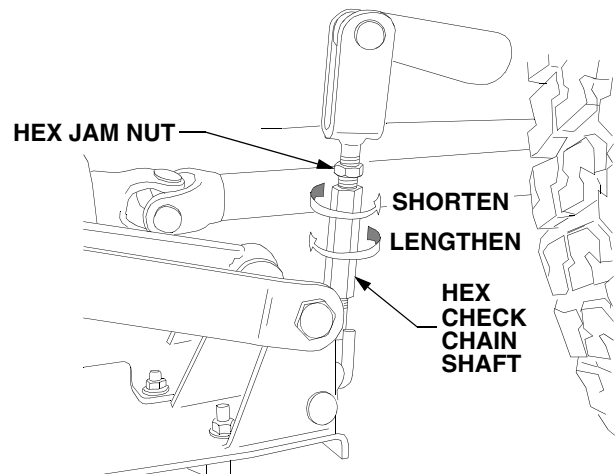

Figure 52
- Move to the left side of the tractor, to the deck check chain assembly. Loosen the jam nut on the check chain. Refer to Figure 52.
- Depending on whether the left side of the deck was higher or lower than the right side, turn the hex shaft of the chain assembly as needed to level the blades to within 1/16" of each other. Turn the hex shaft to the right to shorten the adjustment chain and raise the left side of the deck. Turn the hex shaft to the left to lengthen the chain and lower the left side of the deck. See Figure 52.
- Tighten the hex jam nut against the hex check chain shaft. Refer to Figure 52.